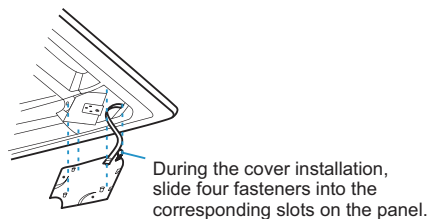

Figure 3.21
- (2) Gently press the installation cover into the panel. See Figure 3.21.